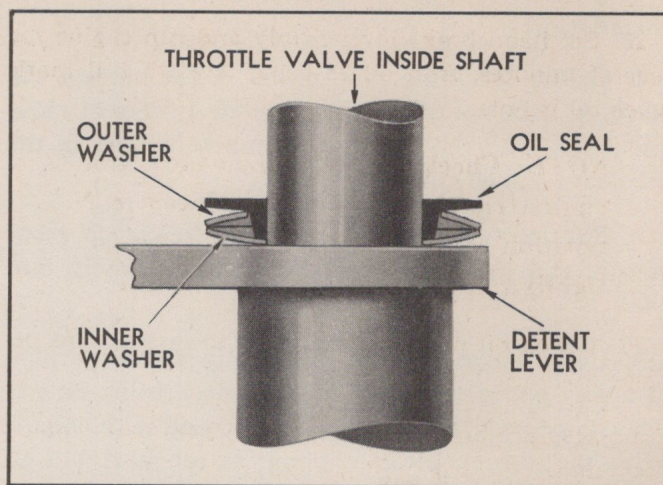

Fig. 100—Inner and Outer Spring Washers and Rubber Seal on Manual Control Shaft
b. See that inner and outer spring washers and rubber seal are in place on manual control shaft (Fig. 100).
- b. See that inner and outer spring washers and rubber seal are in place on the manual control shaft (Fig. 100).